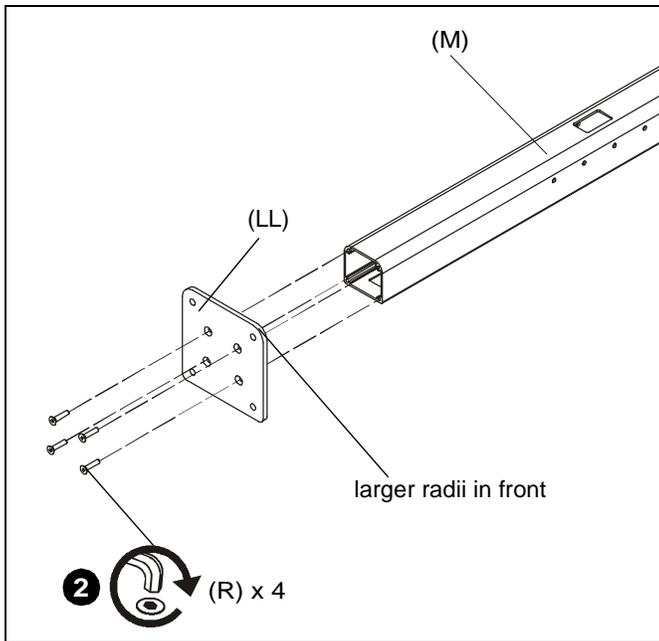

Figure 1
1. Lay array columns (M) down on a flat surface.
2. Use four 5/16-18 x 1 1/2" flat head cap screws (R) to connect each bolt down plate (LL) to each columns (M). (See Figure 1)